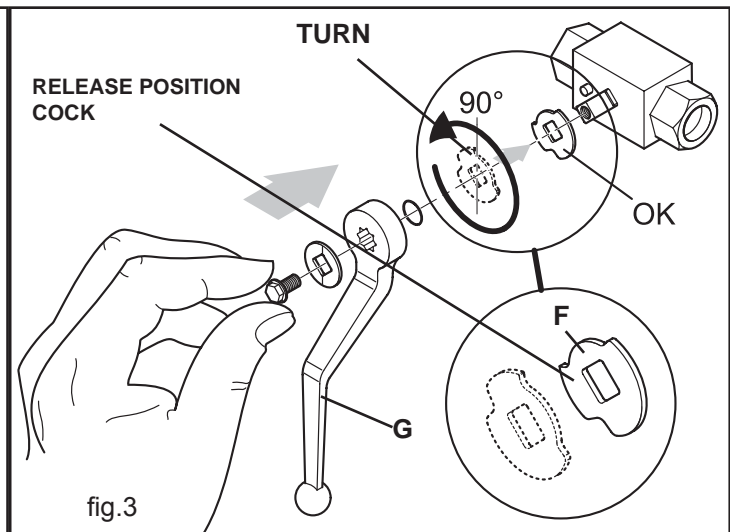
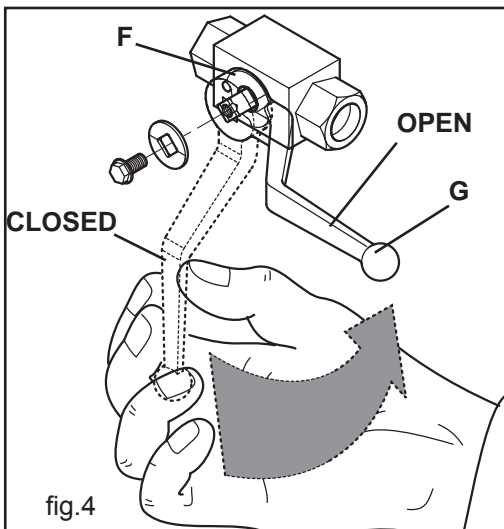
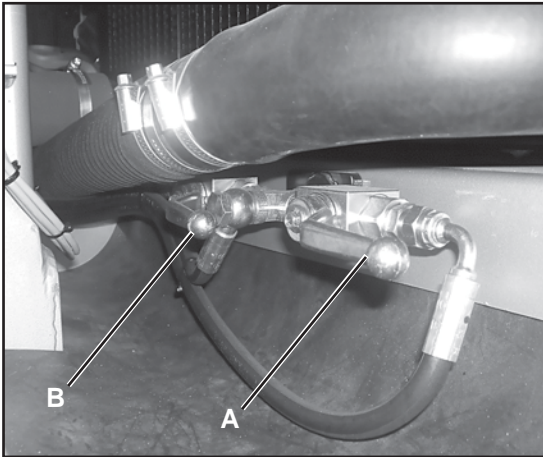

fig.3
fig.4
fig.1
Replace the gaskets, lubricate the screws with silicone grease Tecno Lube /101 and fit everything in the arm fig.4
- 4) Remove the stop ring (E fig.2), remove the safety plate (F fig.2) and turn it anticlockwise through 90° (F fig.3)
- 5) Insert the valve lever (G fig.3), open by turning anticlockwise until it locks with the plate (F fig.4). Open the valve to fully unload the suspension.
The Dobermann HS has front and rear suspension, the procedure for adjusting the front suspension is the same as for the AS version (see previous page), and the valve involved is detail A in fig.1.
- 2) Open the rear valves of the suspension (C fig.3).
- 2) Open the valve (B fig.1) and the suspension unloads.
- 3) Switch on the machine and accelerate fully, so the suspension is loaded, and then unload completely; repeat the operation twice to be sure there is no air, while it reloads and rises measure (fig.4) the the piston and when it reaches 90mm close the front valve (B fig.1), and then close the 2 rear valves (C fig.2).